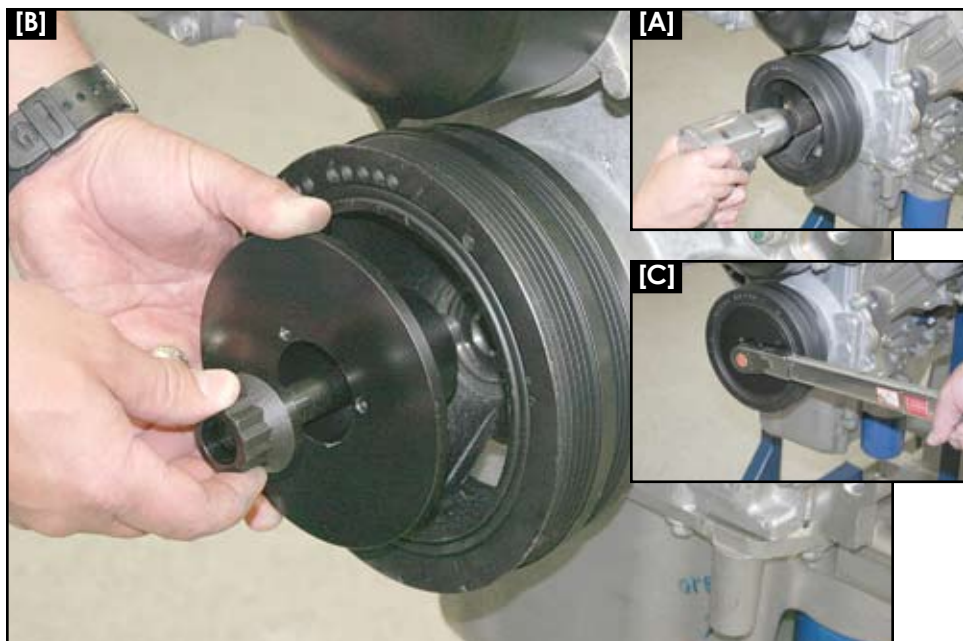

Figure 1: Install Crank Pulley Hub
3. Now break loose old crank bolt and remove, go to Figure 1 Step [B] to install pulley hub.